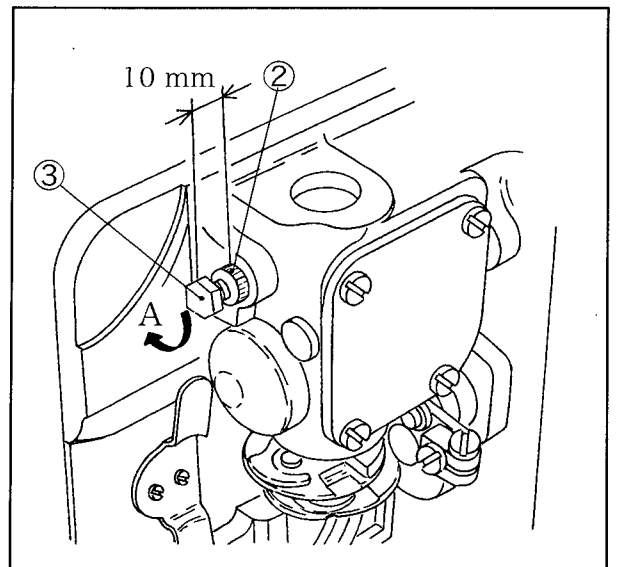

Fig.13
(1) loosen the nut② in Fig.13.
(2) Turn the adjusting screw③ to the arrow direction A. (At shipment, the distance is set to 10 mm.)